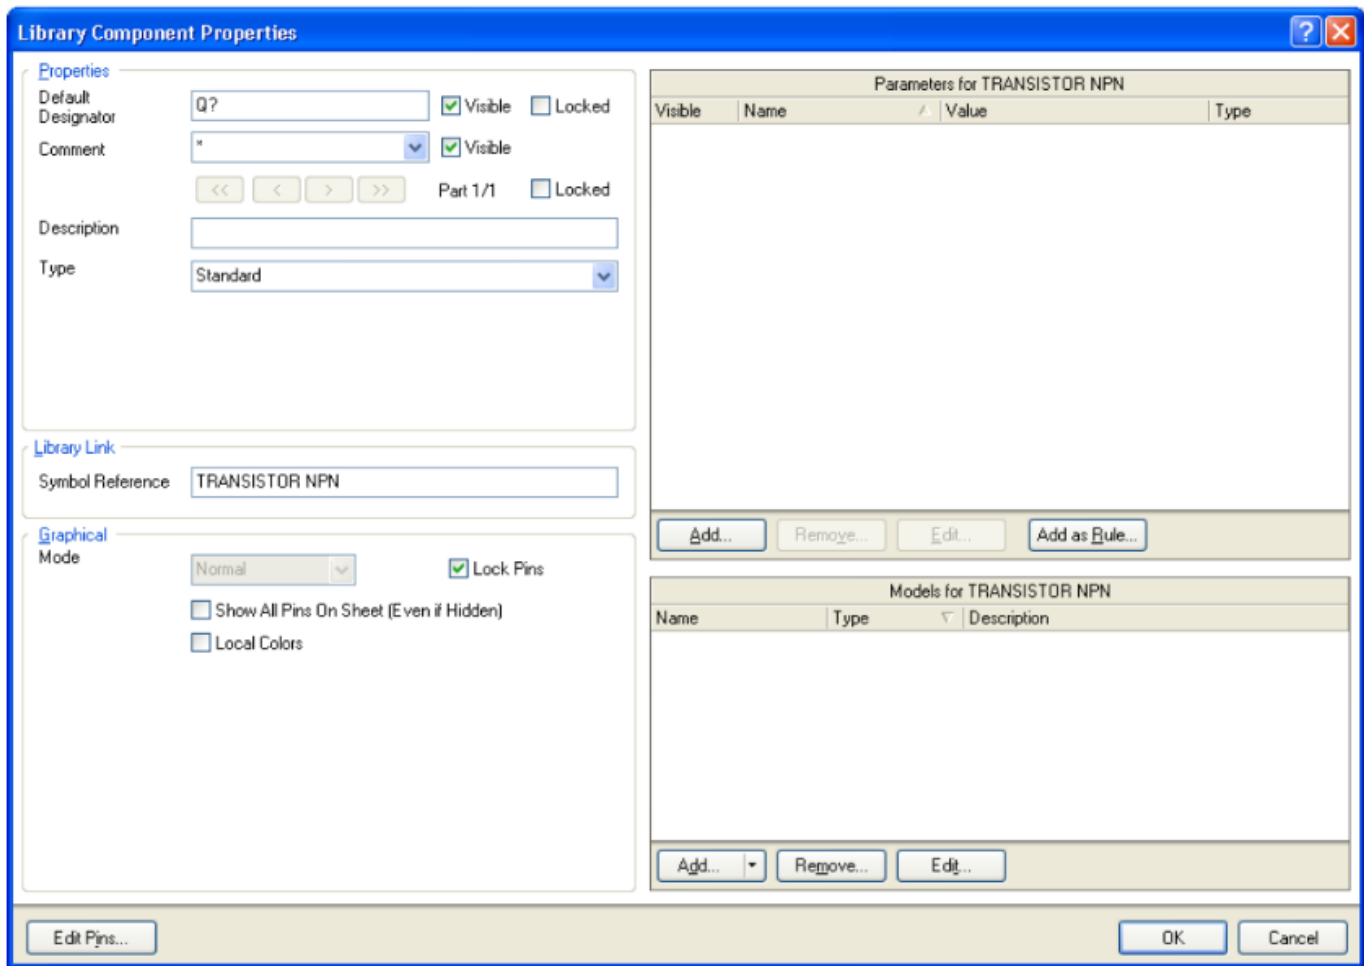

Figure 10. Basic component properties are defined in the Library Component dialog.
- Select the component in the Components list of the **SCH Library** panel and click the **Edit** button, or double-click on the component name. The *Library Component Properties* dialog (Figure 10) displays.